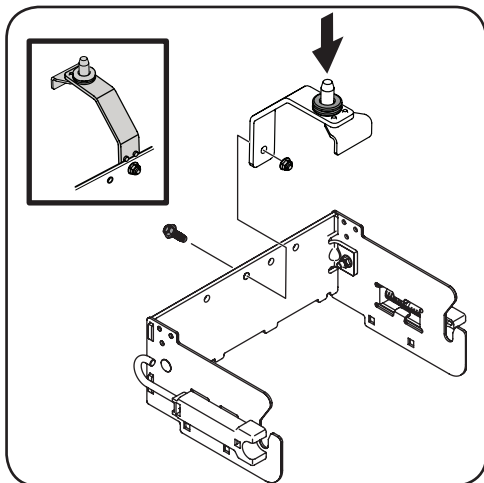

Figure 4-2
3. Flip over bracket assembly and mount the bracket support assembly (ref. #2) on the center hole of the rear support bracket using the hex screw (ref. part #8) and flange lock nut (ref. part #10). See Figure 4-2.
4. Attach the rubber grommet to the pin at the bottom of the bracket support assembly. See inset in Figure 4-2.